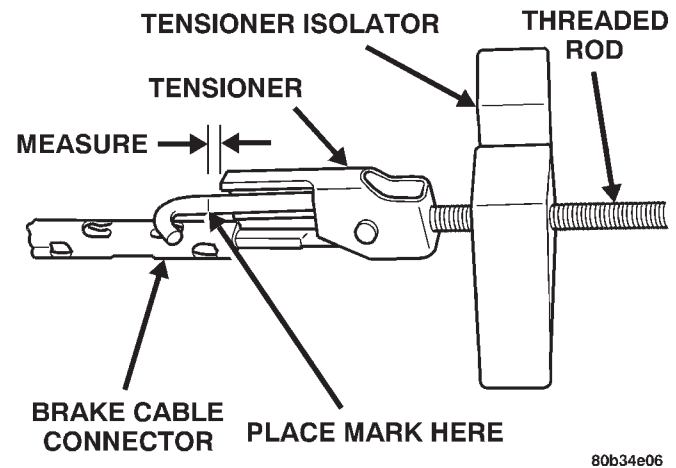

Fig. 90 Adjustment Mark On Cable Tensioner Rod
- (11) Raise vehicle again.
- (12) Mark tensioner rod 6.35 mm (1/4 in.) from edge of tensioner bracket (Fig. 90).
- (13) Tighten adjusting nut at equalizer until mark on tensioner rod moves into alignment with tensioner bracket.